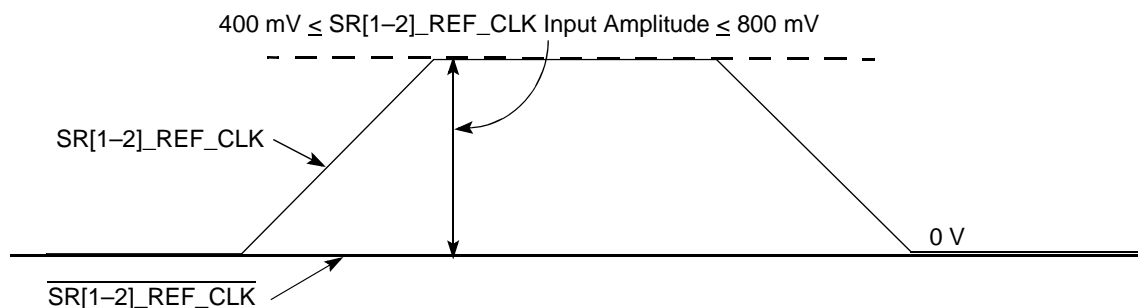

Figure 9. Single-Ended Reference Clock Input DC Requirements
- The SR[1-2]_REF_CLK input average voltage must be between 200 and 400 mV. Figure 9 shows the SerDes reference clock input requirement for single-ended signaling mode.